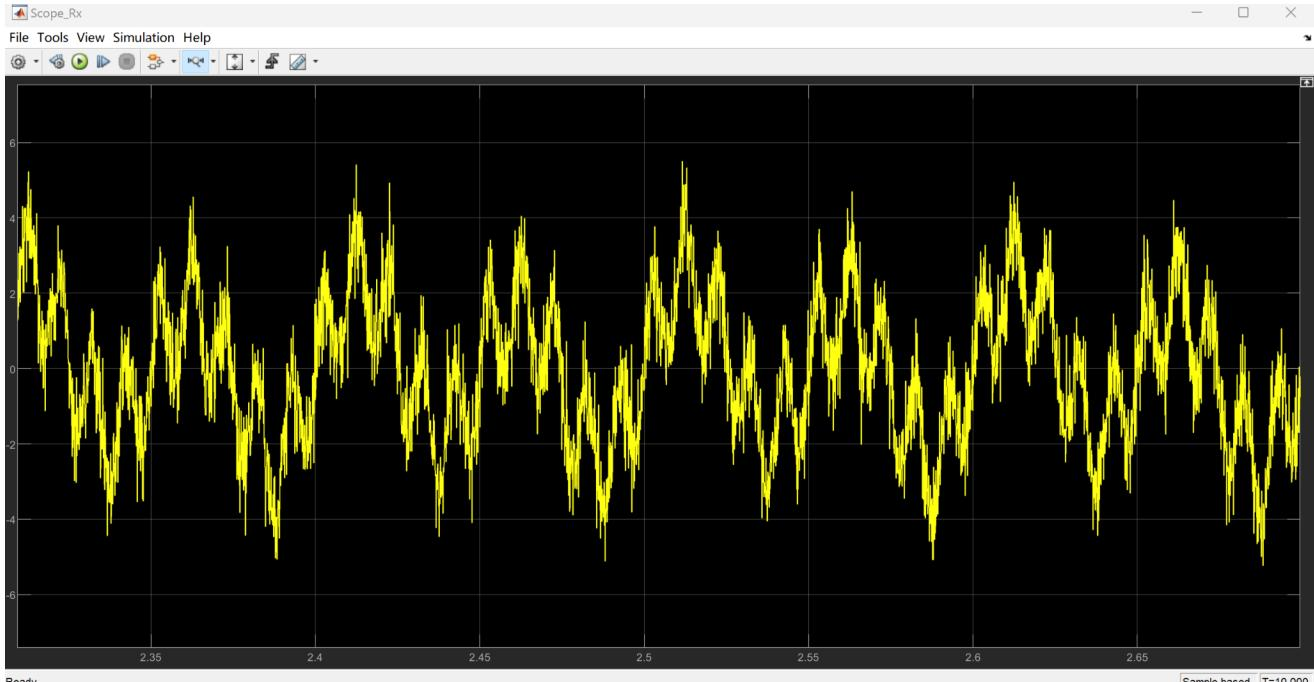
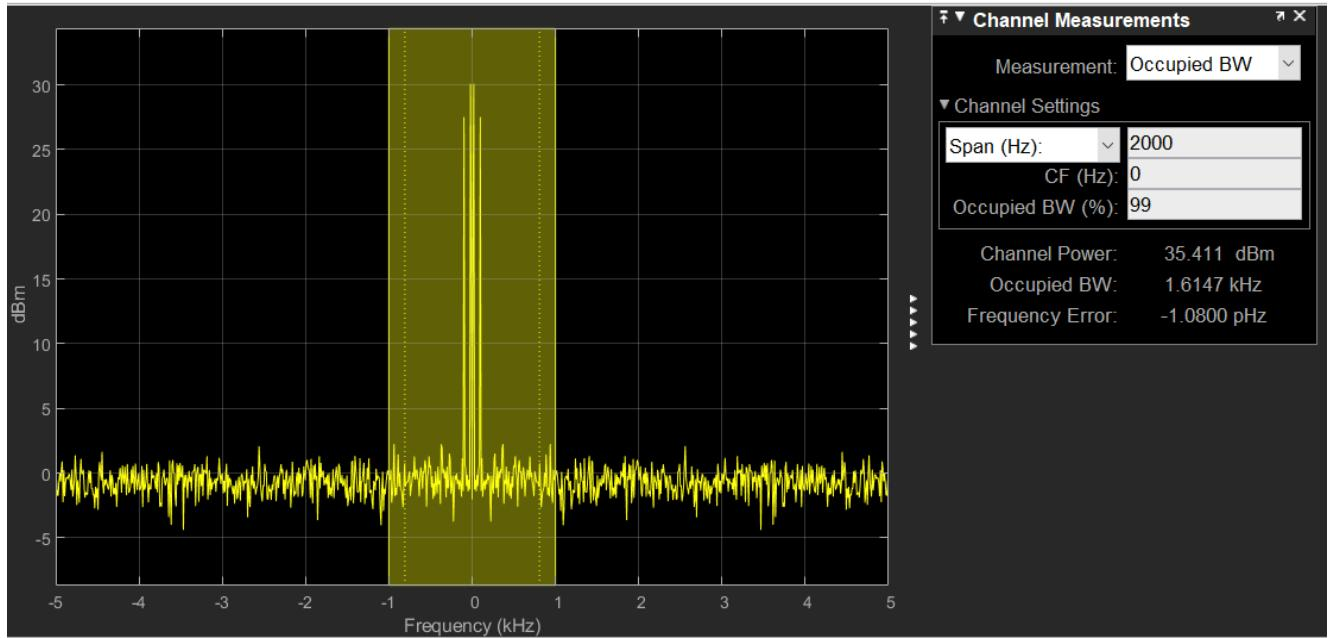

Figure 7. Rx scope plot with a sum of three sine waves.
Figure 8. Rx spectrum plot with a sum of three sine waves.
- 6) We then observe the outputs on Scope(Rx) and Spectrum(Rx) as shown in figure 7 and figure 8. We used the same parameter setup as part 5. Slider gain is set to 1. Comments on the noise will be provided at the Question section in the end.
Answer: As shown in figure 7 and figure 8, we can clearly see in the time domain, noise distort the source signal and make it less clearer. In the frequency domain, occupied bandwidth has increased with the noise, peak value and power remain stable.